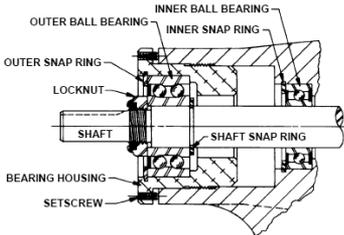
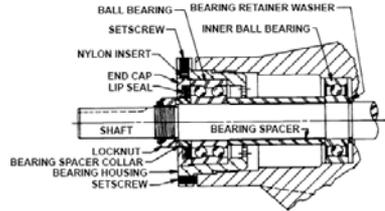

Figure 4. Thrust bearing assembly NG-GG4195, NG-HJ4195 and EI-HI4195 models.
Figure 5. Thrust bearing assembly NG-AS4195, NG-AK4195 and NG-AL4195 models.
4.- Insert a brass bar or piece of hardwood in the port opening and between the rotor teeth to keep the shaft from turning. Turn the locknut counterclockwise and remove locknut. See Figure 4 or 5, page 5.
5.- Loosen the two setscrews in the face of the bearing housing and turn the thrust bearing assembly counterclockwise and remove from casing. See Figure 4 or 5.
Models NG-GG4195, NG-HJ4195, NG-HL4195: Remove the snap ring from the shaft. See Figure 4.
Models NG-AS4195, NG-AK4195, NG-AL4195: Remove the bearing spacer from the shaft. See Figure 5.
NG-AS4195, NG-AK4195, NG-AL4195: Remove the bearing retainer washer. The washer may have stayed with the rotor and shaft when removed or is against the ball bearing. See Figure 5.
10.- NG-GG4195, NG-HJ4195, NG-HL4195: Remove the outer snap ring from the bearing housing and remove the ball bearing. See Figure 4. NG-AS4195, NG-AK4195, NG-AL4195: Loosen the two setscrews in the flange outside diameter. Rotate the end cap and lip seal counterclockwise and remove. Remove the ball bearing. See Figure 5.
10.- On models NG-GG4195, NG-HJ4195, NG-HL4195: Install the shaft snap ring in groove in the shaft. See Figure 4, page 5. On models NG-AS4195, NG-AK4195, NG-AL4195: Install the bearing spacer over the shaft and against the single row ball bearing. See Figure 5, page 5.
See figures 4 and 5.